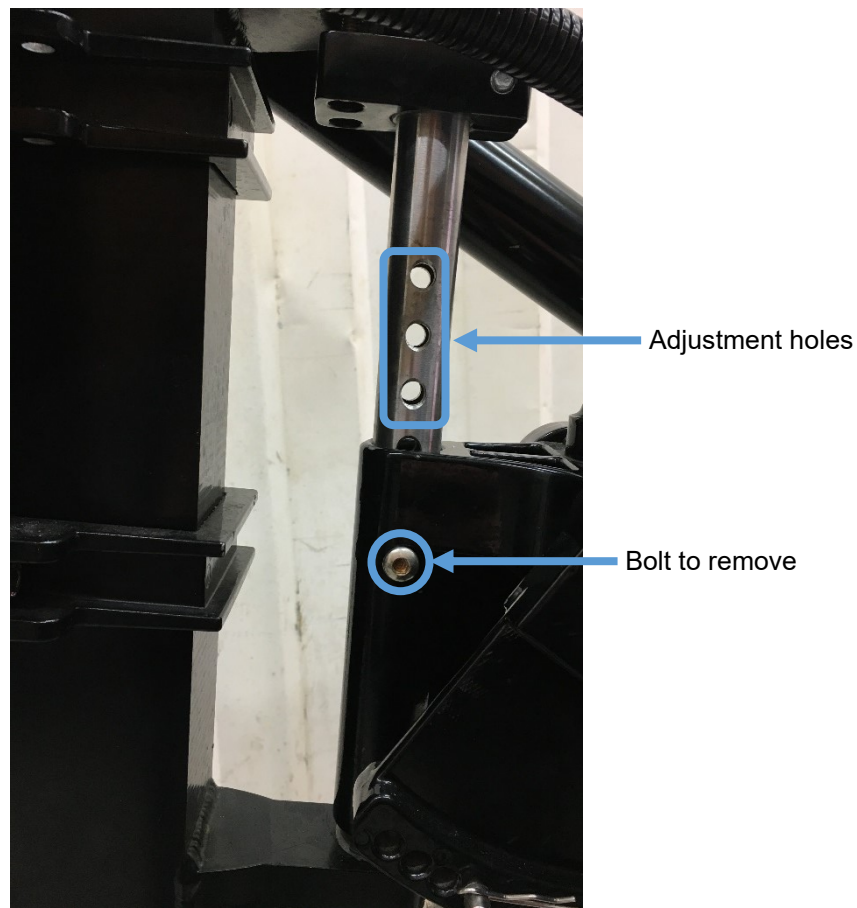

Figure 13: Adjusting the transom height
- To adjust the transom height, remove the bolt on the shaft (see **Figure 13**). Select the correct hole on the shaft which will give you the correct transom position. Refit the bolt and tighten the nut and bolts securely.